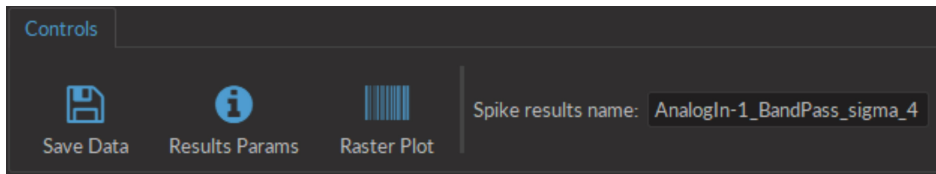

Figure 4.41: Spike Finder Control Box
1. The **Control box** (Fig. 4.41) displays options usable in the window.